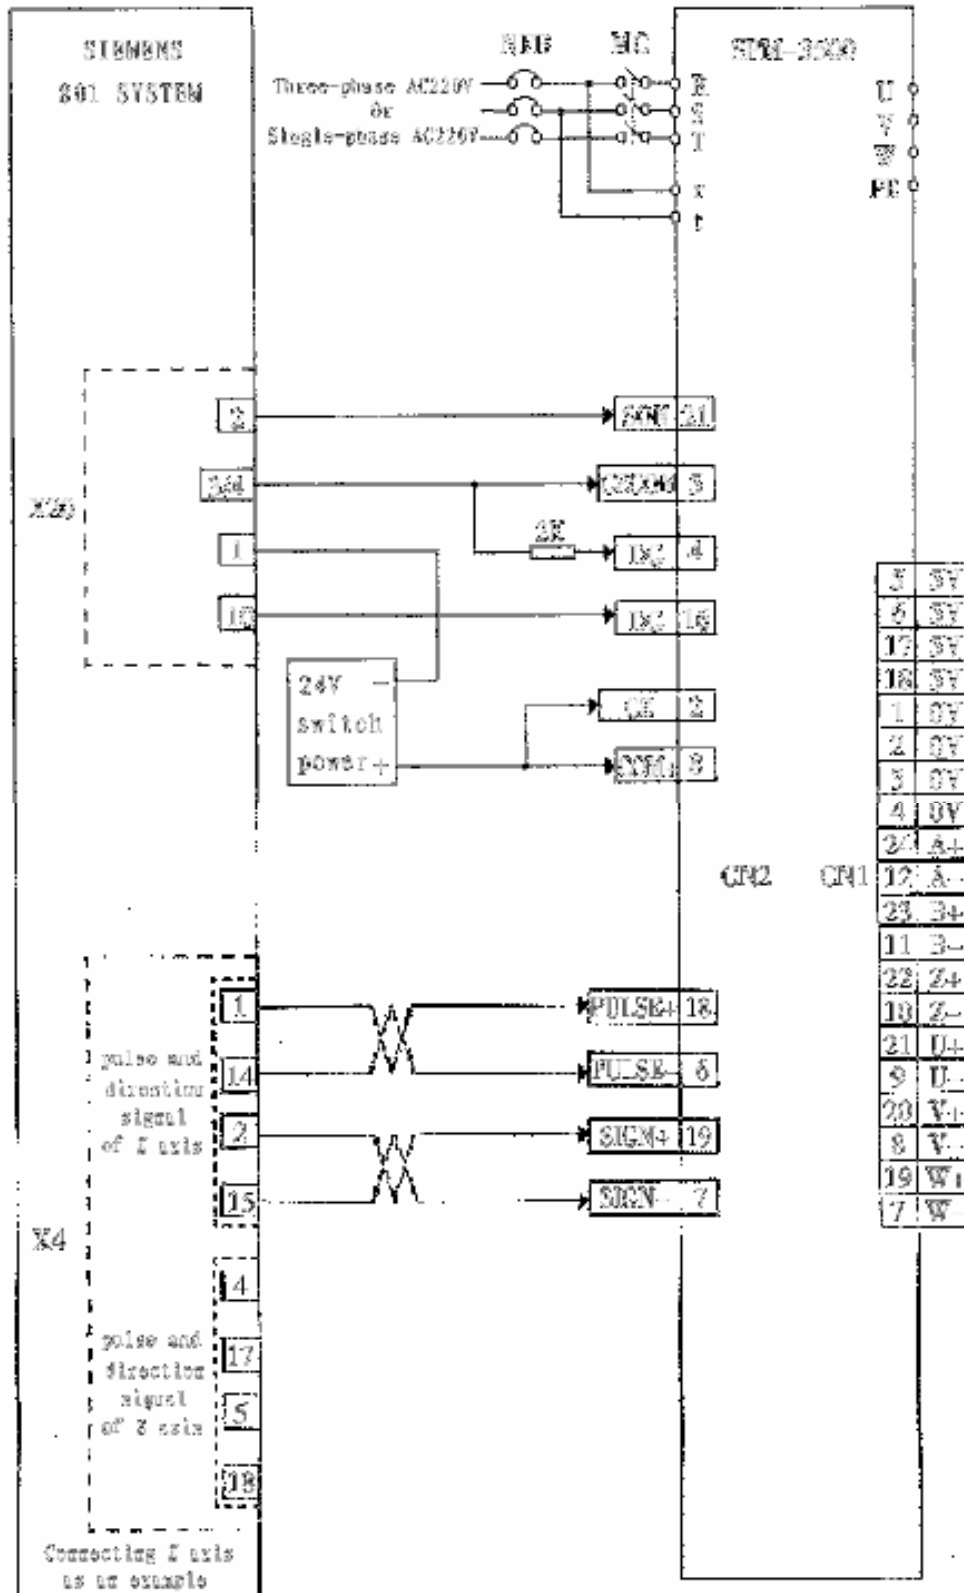

Fig 5.7 The standard wiring for position control mode between the driver and SIEMENS 801 system
- 7) Fig 5.7 shows: The standard wiring for position control mode between the driver and SIEMENS 801 system.